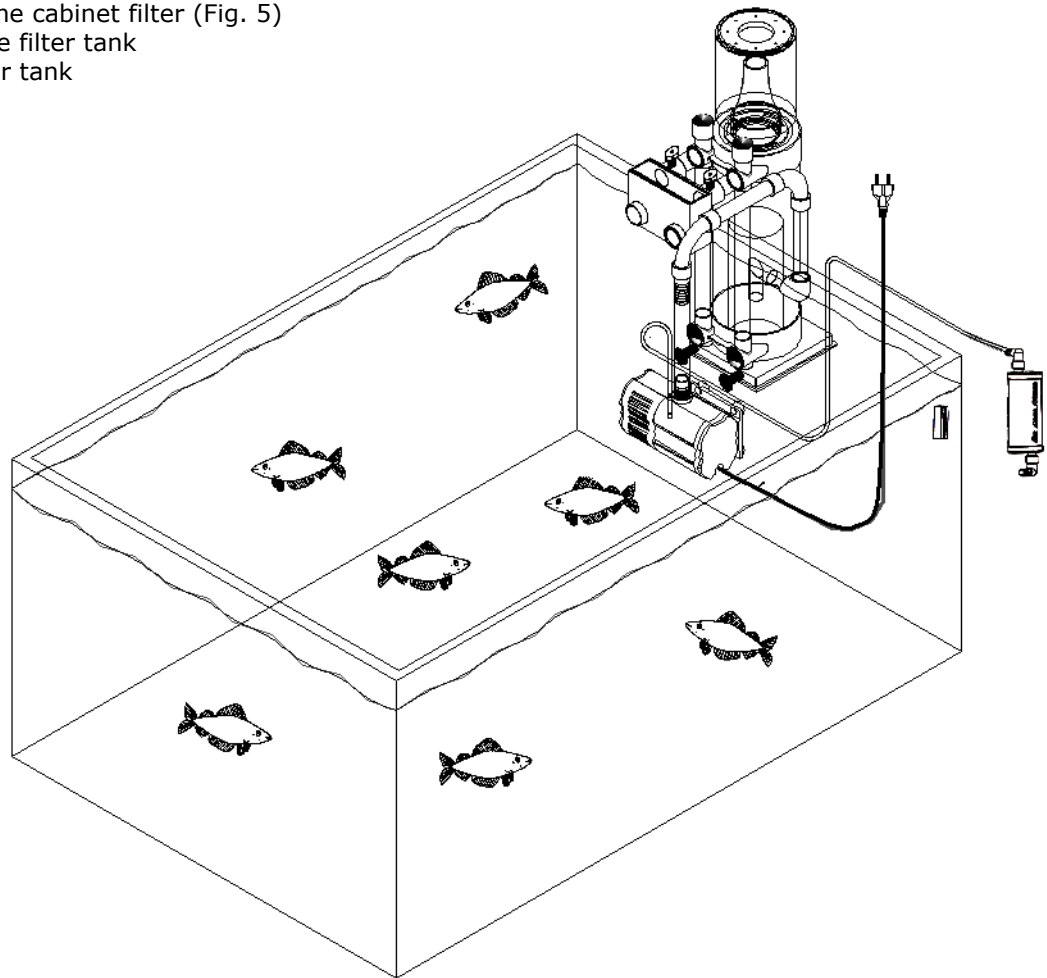

Fig. 3: Turboflotor Multi SL in "Hang on" operation
1. As an external skimmer, directly mounted on the aquarium: "Hang on", (Fig. 3/Fig. 4).
Set up as an external skimmer on the aquarium - Hang on (Fig. 3)
We recommend securing the hose with the clips provided. Now, the skimmer can be aligned with the aquarium. The two screws at the bottom of the skimmer are adjusted in such a way that the skimmer is hanging safely on the aquarium. It is advantageous if the skimmer is not 100% upright, but leaning slightly (2%) to the aquarium (Fig. 3). The skimmer is not only hanging more safely then, but also back-flow of water from the outflow box over the aquarium frame is prevented. Both adjusting screws at the bottom are supplied with silicone suction cups for increased safety.